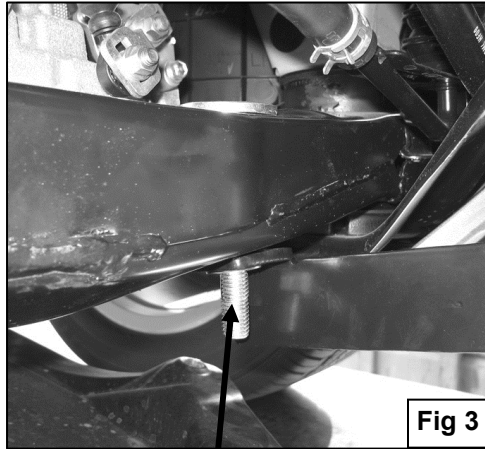

Fig 3
4. Once you have removed the suspension dampener, start on the driver side of the vehicle to insert from the top of the cross member (1) 12mm x 90mm Bolt Plate (**Figure 3**). Gas Models: Re-install the suspension dampener over Bolt Plate using the factory hardware at this time. **NOTE:** On hybrid models the shifter arm and the shifter cable obstructs the installation of the Bolt Plate. In order to insert the Bolt Plate through the top of the cross member, first make sure that the vehicle is on a level surface, put the emergency brake on, then secure the vehicle by putting blocks on the tires to prevent it from rolling. Turn engine on and shift it to "B" then turn engine off. Insert Bolt Plate then turn engine back on and shift it to park then turn engine off.